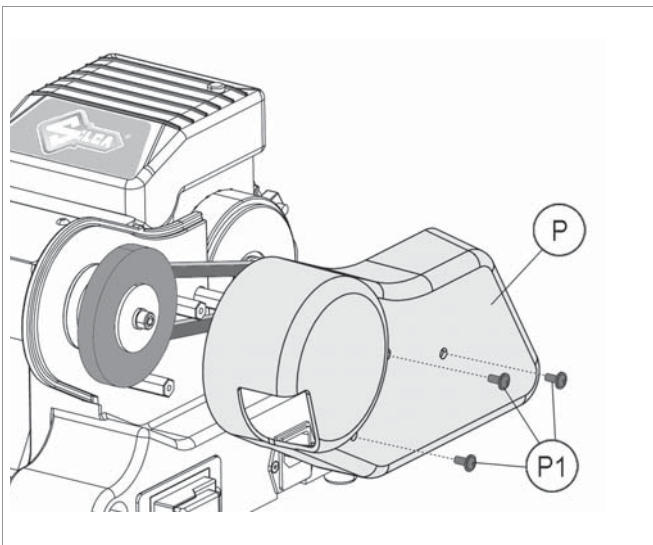

Fig. 33
- 1) Remove the cover (P) by loosening the screws (P1) (Fig. 33).